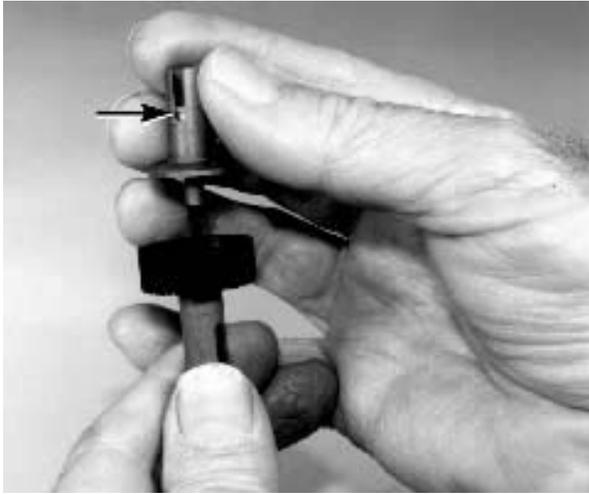
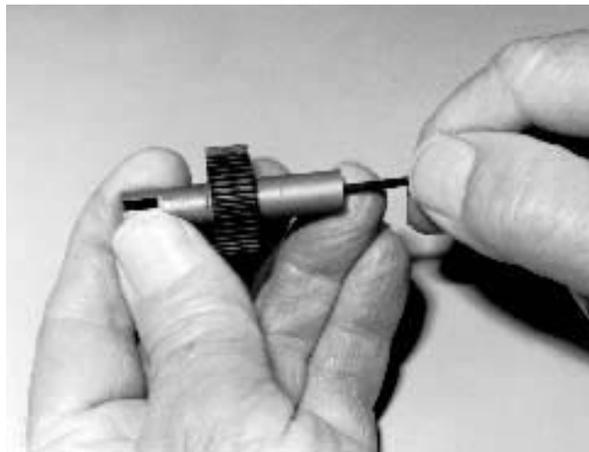

Fig. 54
Fig. 55
□ **Figs. 54 & 55** (1) With the Allen wrench still in the diff bolt, turn the right hub so that the end of the bolt is facing up. **WARNING!!:** Make sure you securely hold the Allen wrench in the head of the diff thrust bolt. This will prevent the bolt, washers and possibly the diff thrust balls from falling out during assembly and possibly getting lost. (2) Now we are going to install the #7668 left diff drive hub assembly over the #6575 diff bolt until it seats on the #7666 diff drive ring (as shown in fig. 54). When picking up your left diff hub place your finger over the slotted end of the hub so that the T-nut and spring cannot fall out. Make sure that the outdrive hub centers on the top diff drive ring when it fits into the center of the diff gear. (3) While holding the upper diff hub, tighten the diff bolt using the Allen wrench. Please make sure the hubs and diff drive rings stay centered. (4) Once you have lightly snugged the two halves together you can turn the diff assembly sideways, as shown, to make the final adjustment easier (see fig. 55). Hold the left hub and tighten the screw until it stops. This will fully compress the diff spring under the T-nut. **DO NOT OVERTIGHTEN.** Correct adjustment is tightening the diff bolt and spring until the stop, then backing the bolt off 1/8 of a turn.